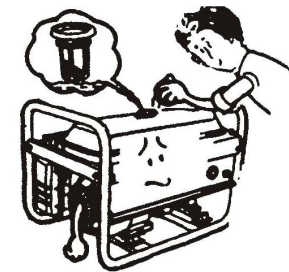

Figure 14
2.3 Check the fuel level, and add fuel if necessary. Be sure not to add too full. Fuel capacity for the machine: 15L (2.0GF, 2.5GF) (Figure 14)